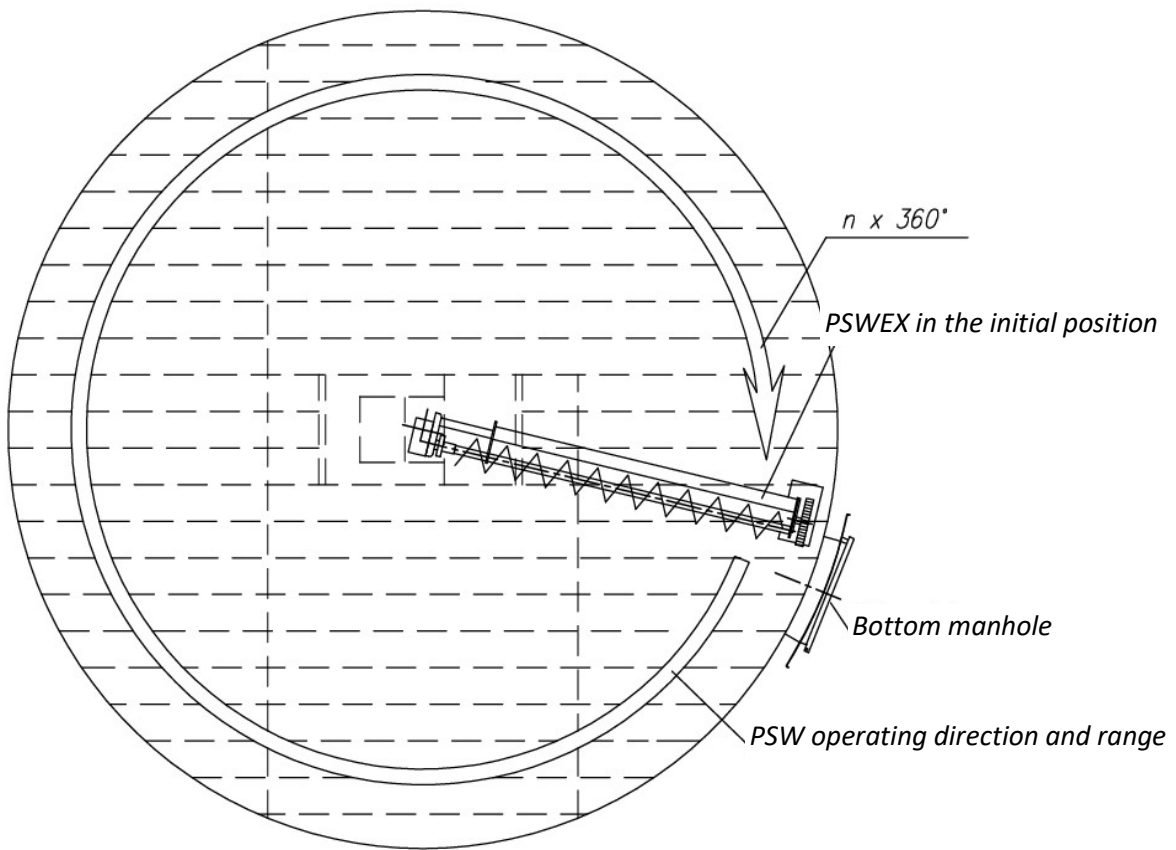

Figure 8. A diagram showing the PSWEX conveyor setting in a silo without an internal ladder and other equipment above the floor.
- Conveyors of the PSWEX type-... can make any number of full turns around the vertical silo axis ( $n \times 360^\circ$ ) in a direction of its operation (Figure 8 – if there is no emergency duct, internal ladder, etc. in the silo). The conveyor does not need to move back.
- 1.16 In silos without internal equipment Figure 8 the conveyor should be kept moving until the silo is completely unloaded. One or more full PSWEX turns around the silo vertical axis.